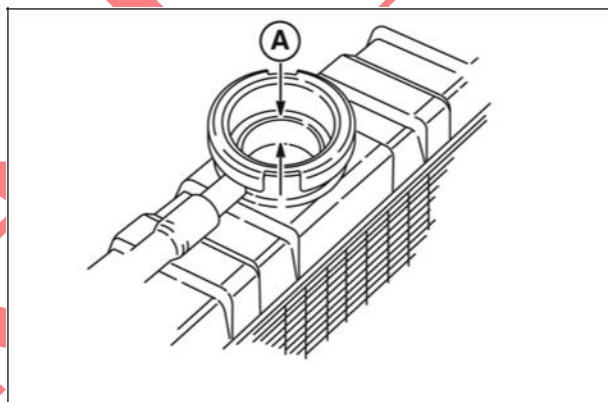

Figure 2
6. Check coolant level in radiator (A, Figure 2) and add coolant as required.